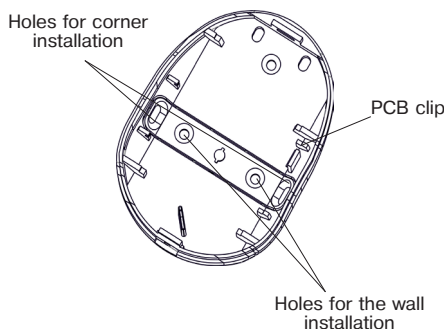

Figure 2 – The Detector base
- remove the printed circuit board by pressing the retaining clip (see figure 2);
- drill holes in the base of the housing (see Figure 2), which will be used to mount the detector;